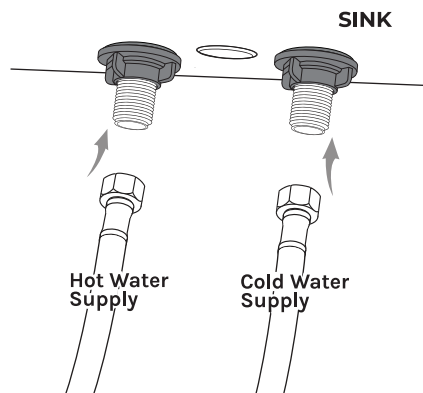

Fig. 8
1. Install new water supply lines according to the manufacturer's installation instructions. **DO NOT** reuse existing supply lines. (see Fig. 8).